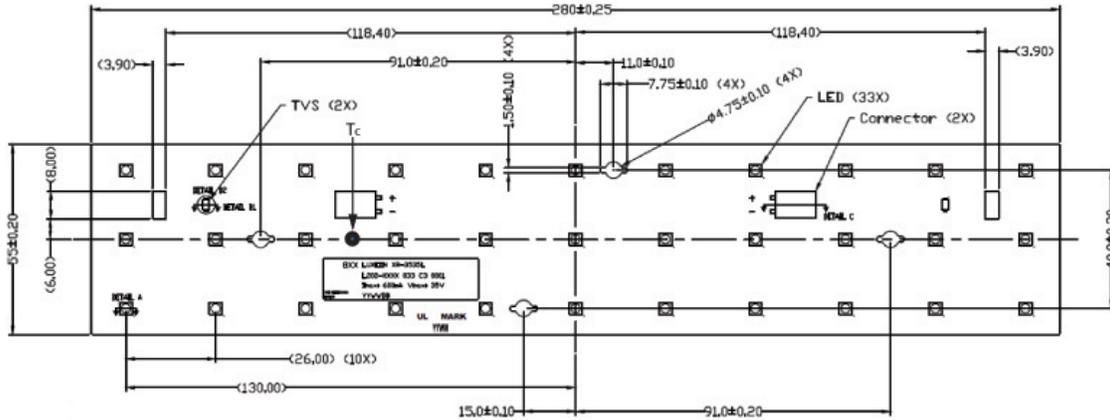

Figure 9: Mechanical dimensions for L202 - xxxx033C30001, outline, screw hole and LED pitch.
- Notes for Figures 9, 10 and 11: